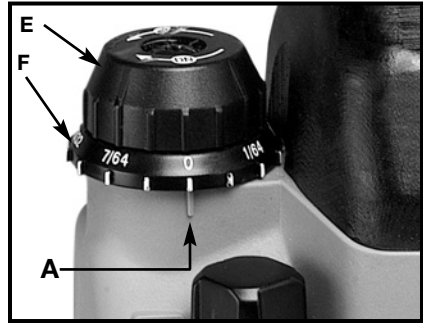

Fig. 15
8. Hold the micro-plunge adjusting knob (E) Fig. 15 while turning the micro-plunge adjusting ring (F) Fig. 15 until the "0" lines up with reference mark (A) Fig. 15 on the motor housing.
7. The bit height can be adjusted using the micro plunge adjusting knob. To raise the bit, turn the micro-plunge adjusting knob (E) Fig. 15 clockwise. To lower the bit, turn the knob counterclockwise.